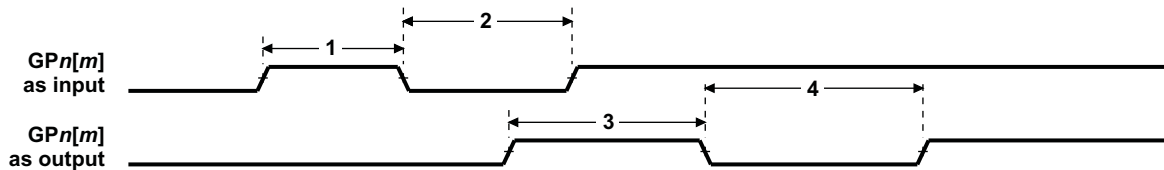

**Figure 6-76. GPIO Port Timing**
**Table 6-112. Timing Requirements for GPIO Inputs(1) (see Figure 6-76)**
- (1) The pulse width given is sufficient to generate a CPU interrupt or an EDMA event. However, if a user wants to have the device recognize the GPIx changes through software polling of the GPIO register, the GPIx duration must be extended to allow the device enough time to access the GPIO register through the internal bus.
- (2)  $C = \text{SYSCLK4 period in ns}$ .
**Table 6-113. Switching Characteristics Over Recommended Operating Conditions for GPIO Outputs (see Figure 6-76)**